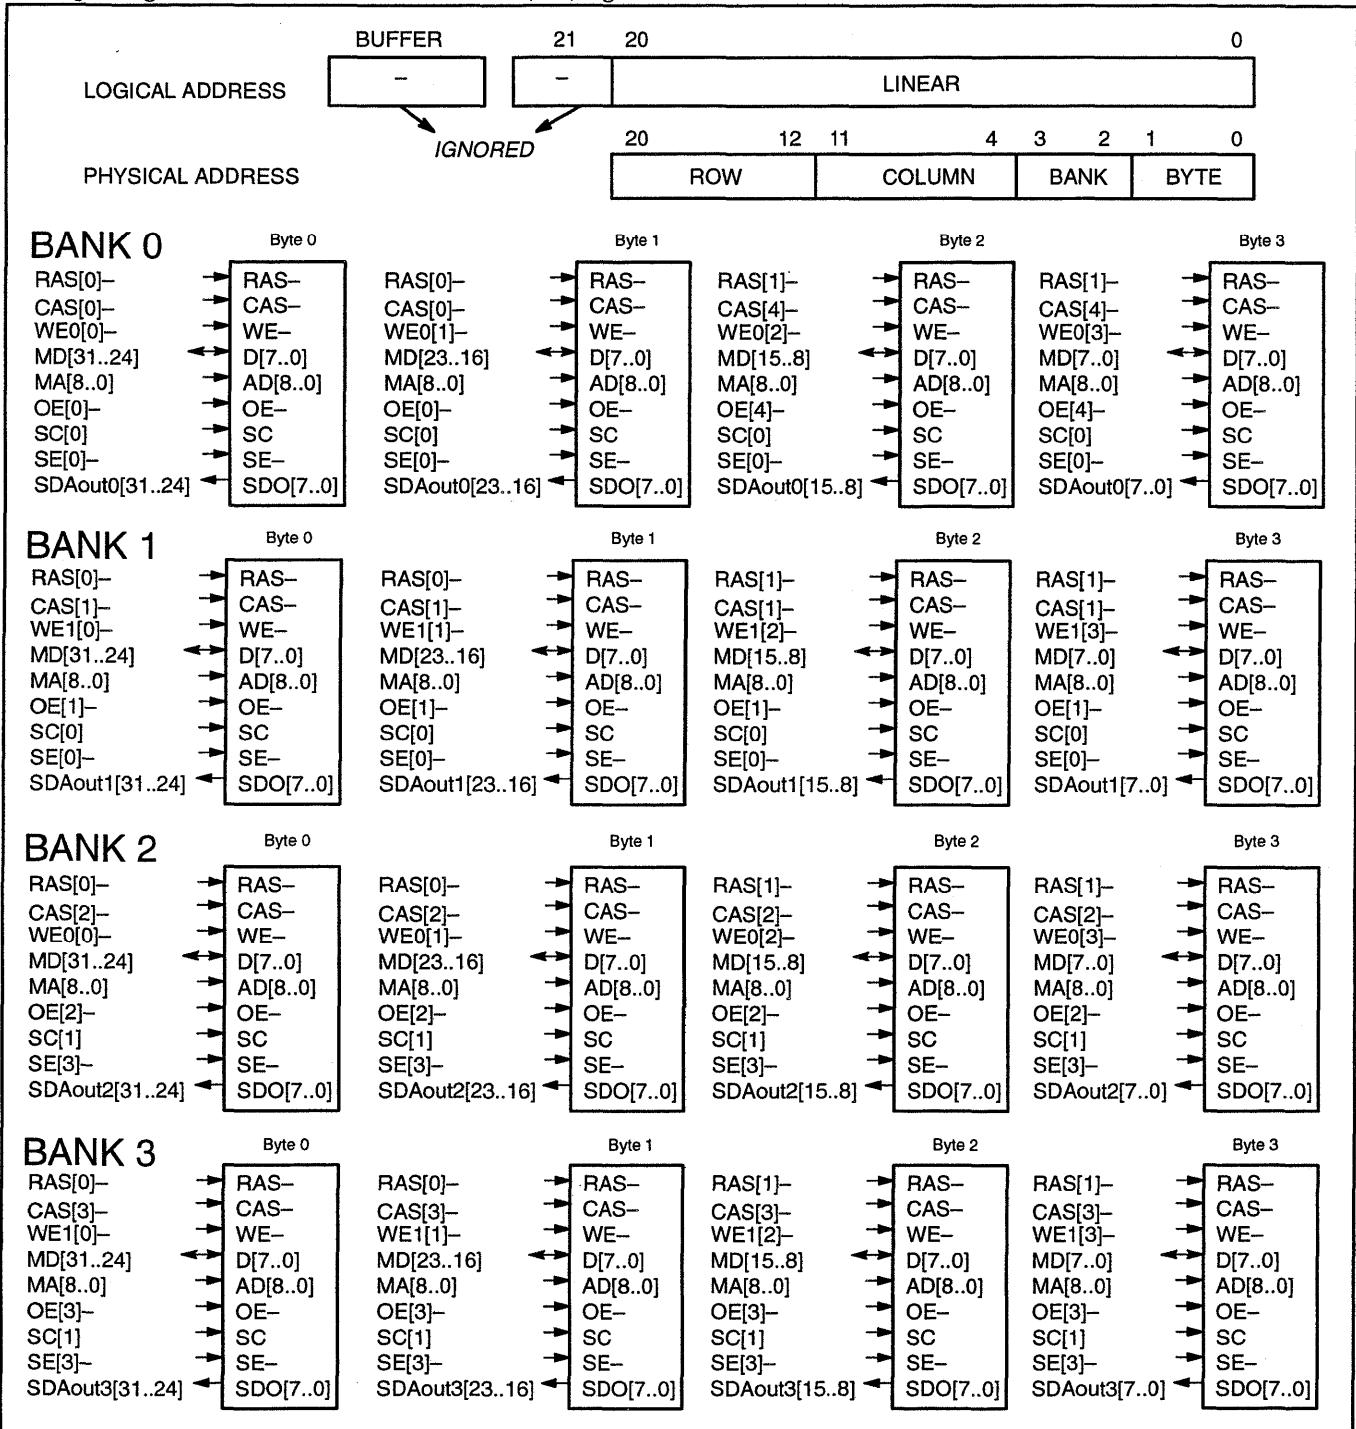

Figure 106. Config 3 (mem_config.config = 0011) 4 banks of 128K VRAMS, 1 buffer of 2MB
Figure 106 assumes that you are using a 64-bit wide RAM-DAC. If you are using a 32-bit wide RAMDAC, use external logic to generate additional serial enable (SE) signals to address banks 1 and 2. Refer to the *Power 9100/Video Power Board Application Note* for more information.